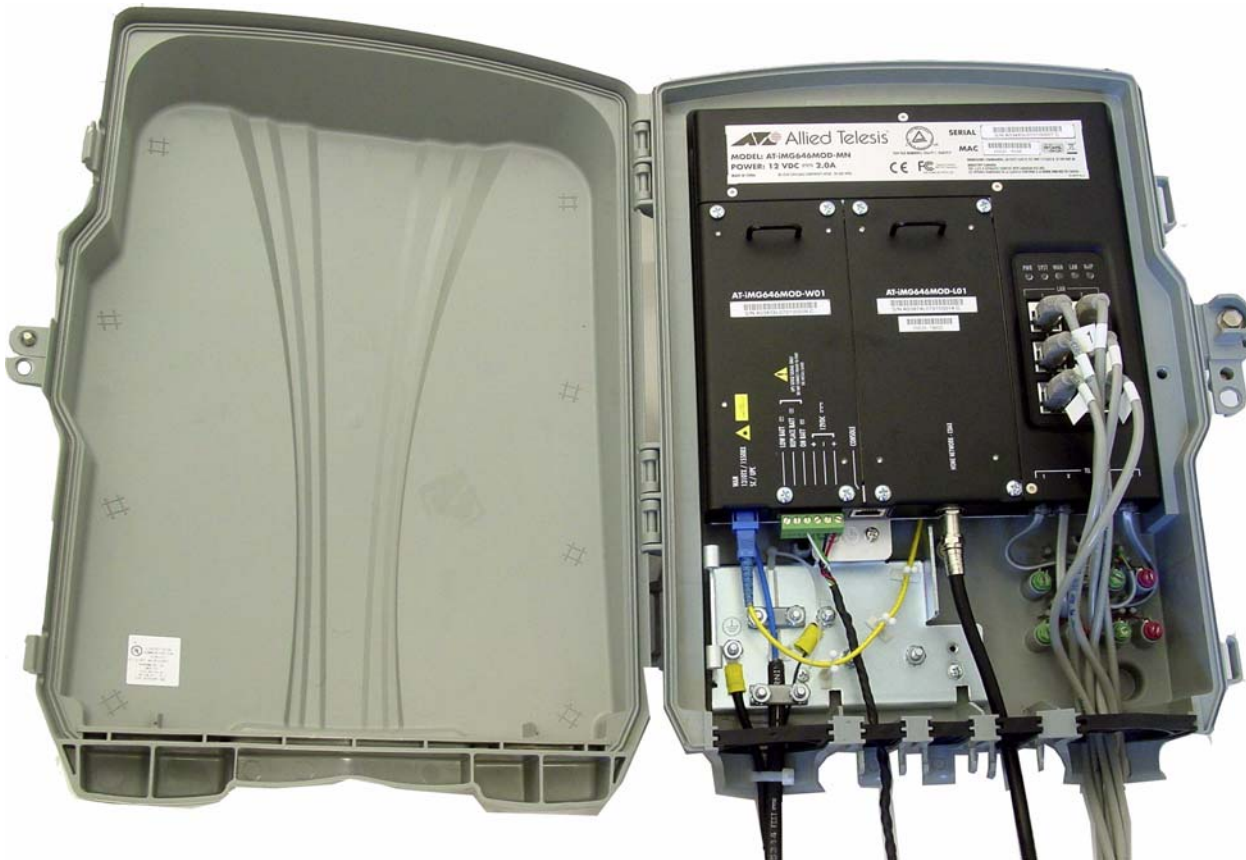

Figure 12. Configuration Complete
3. The physical installation is now complete, as shown in Figure 12.